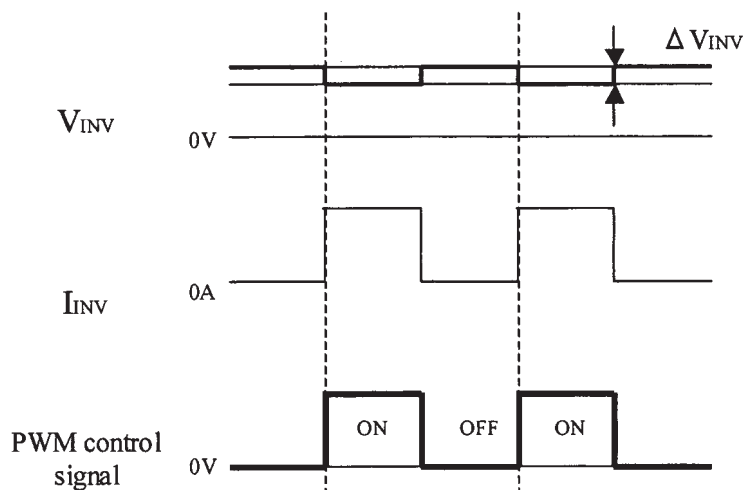

Fig.5 Brightness control voltage.
- Brightness control voltage is switched for "ON" and "OFF", as shown in Fig.5. Voltage difference generated by this switching, ΔV_{INV} , may affect a sound output, etc. when the power supply is shared between the inverter and its surrounding circuit. So, separate the power supply of the inverter circuit with the one of its surrounding circuit.